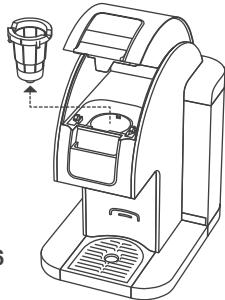

Fig. 16
1. Open the Cover, and remove the Red Cup Holder from the brewer by pulling on it. (Fig.16)